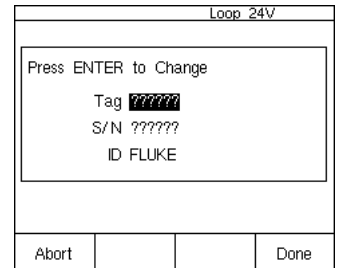

Figure 9
- Now you are presented with the Tag entry screen (Figure 9).